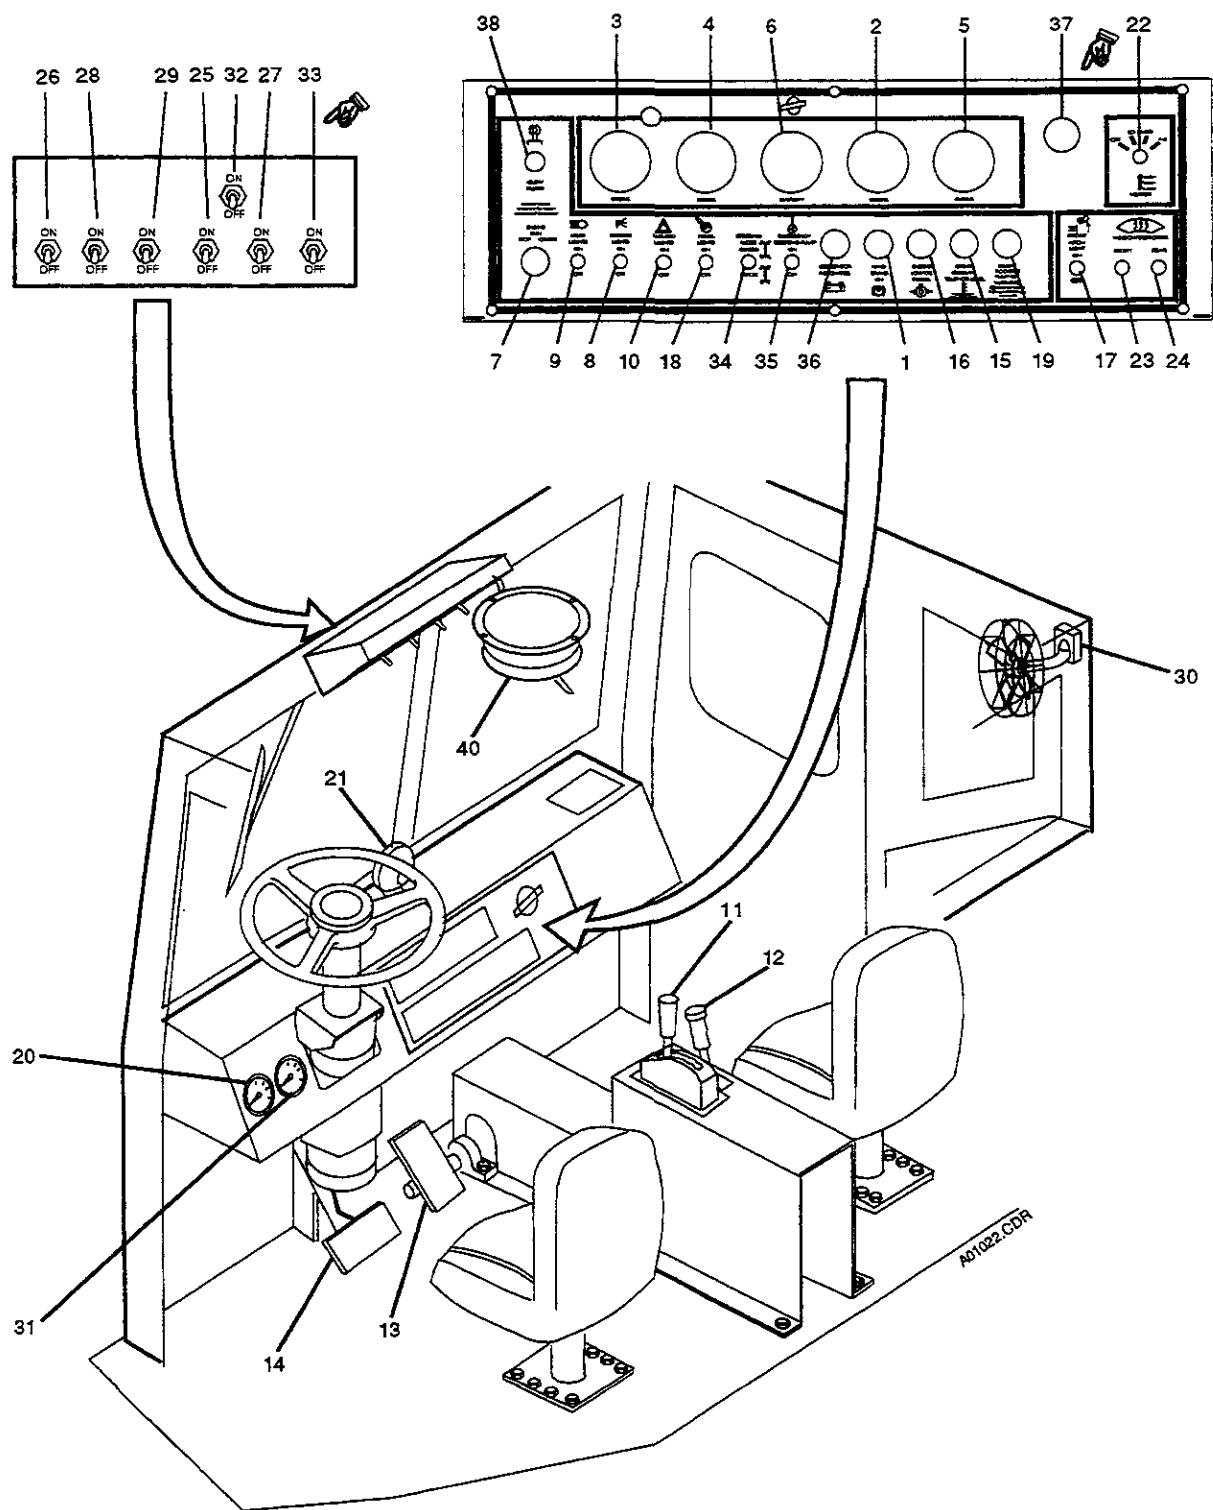

FIGURE 2.1 OPERATOR'S PANEL AND CONTROLS
2.4.1 Table 2.2 lists the controls and indicators and explains the specific function of each. Reference Figure 2.1 for location of the item listed.